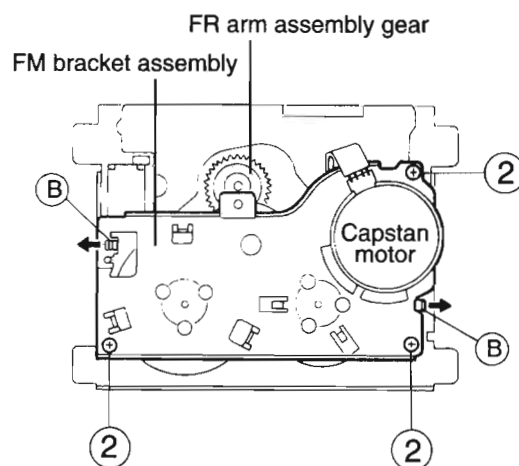

Fig 4
(3) Removing the FM bracket assembly (See Fig 4)